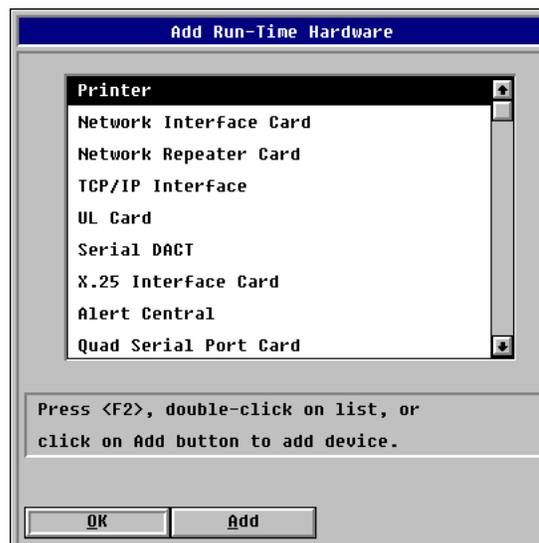

Figure 5-3 Add Run-Time Hardware Dialog
3. Click **Add**. The system displays the **Add Run-Time Hardware** dialog shown in Figure 5-3.